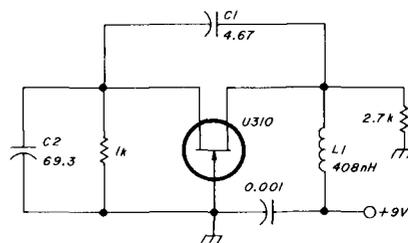

fig. 7. The same oscillator shown in fig. 6, except designed with the more accurate method.
The final circuit diagram, with component values, is shown in **fig. 7**. Note that g_{out} from **step 18** is within 0.32 per cent of the desired g_{out} of -0.37 mS or $-2.7k$ ohms. Again, the reason for the slight
6. Using the common-gate parameters from step 3, and the component values determined from step 5, complete the design by using those steps outlined for fig. 7.